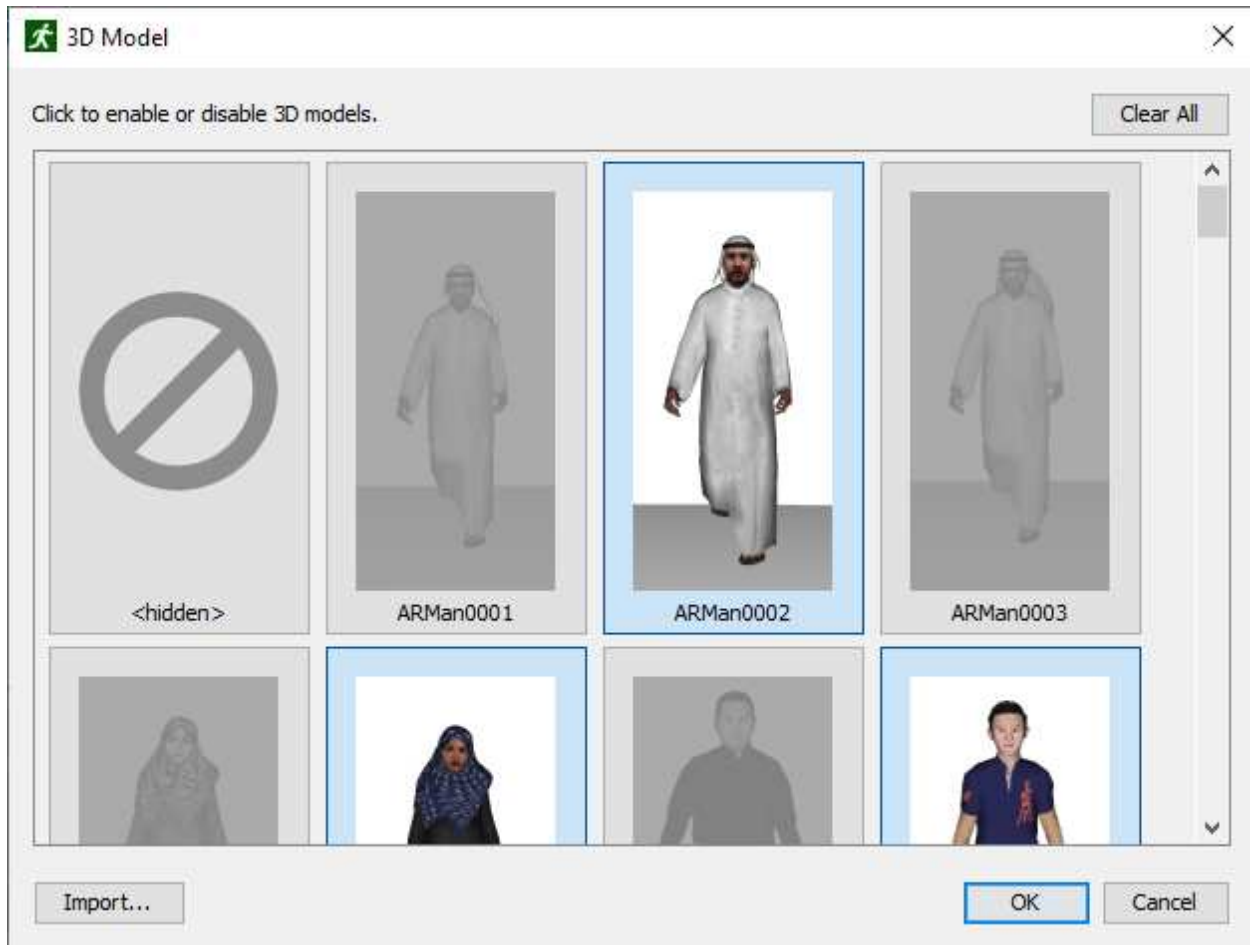

Figure 100. An example of the 3D model dialog.
1. Click **Edit** on the **3D Model** row. This will open the **3D Models** dialog (see Figure 100).